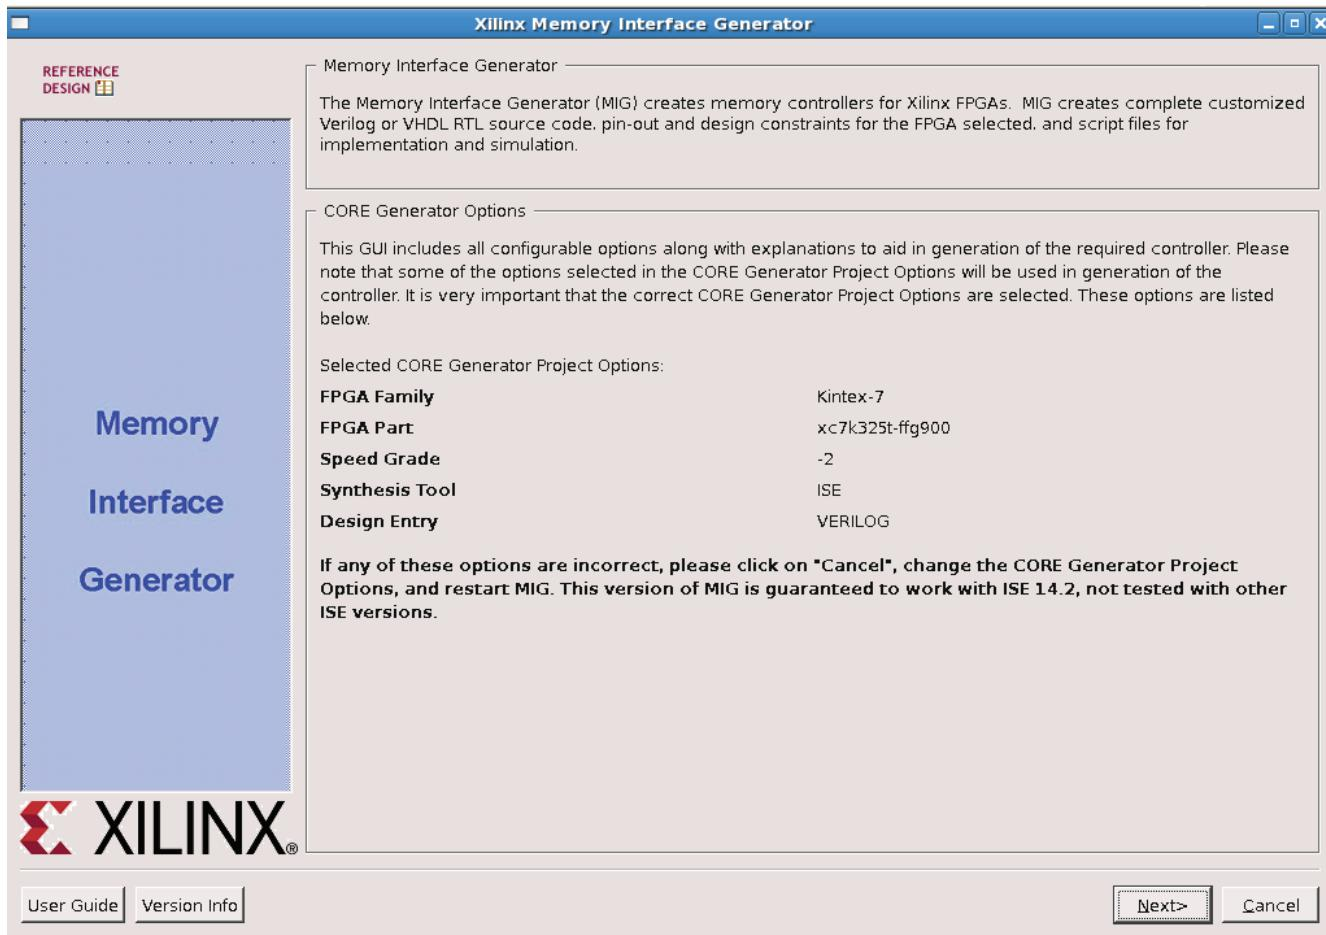

Figure 29: Kintex-7 FPGA Memory Interface Generator (MIG) Front Page
16. In the MIG GUI, review the core options and click **Next** (Figure 29).